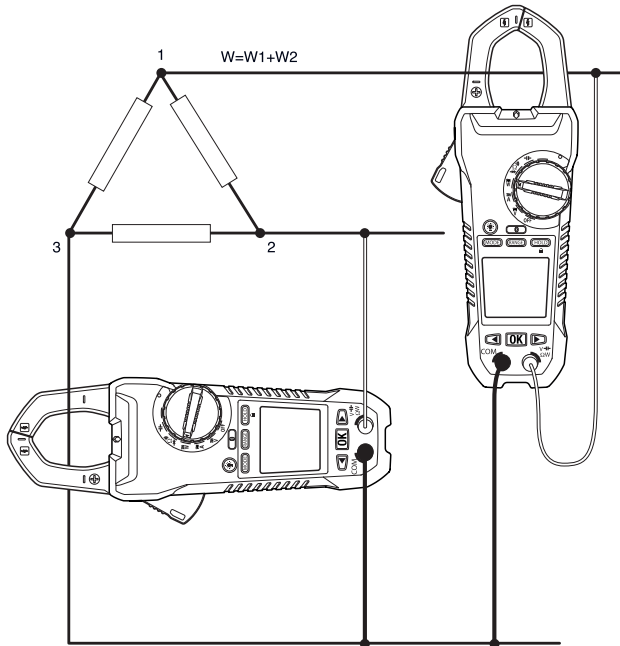

Figure 5.4 Three-phase three-wire measurements
The power of a three-phase three-wire wye (star) configuration is measured in two steps, in accordance with Figure 5.4. The total power is the sum of the two measurements: $W = W_1 + W_2$.
3. Take two measurements of the active power, in accordance with Figure 5.4.